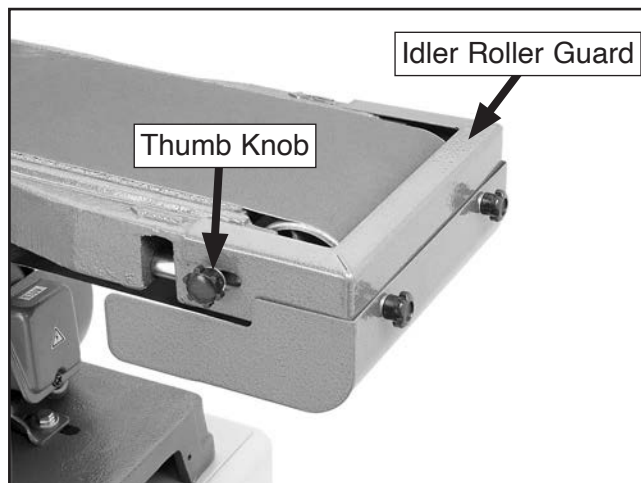

Figure 41. Idler roller guard installed.
38. Assemble idler roller guard with (2) M5-.8 x 10 thumb knobs, #10 lock washers, and #10 flat washers, then loosen thumb knobs behind idler roller, and install idler roller assembly (see **Figure 41**).